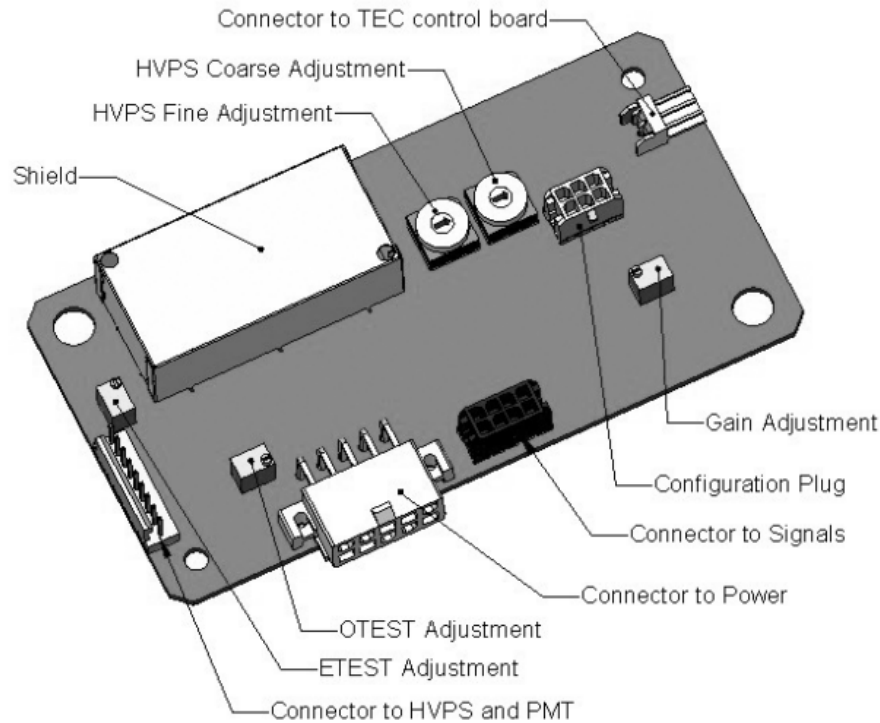

Figure 7. Pre-amplifier board layout.
5. Locate the following components on the pre-amplifier board (**Figure 7**):